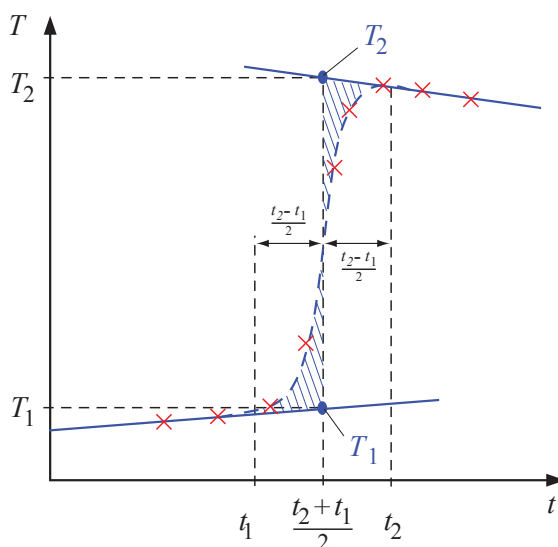

Fig. 5.3.4 Extrapolation of the temperature.
- Determine the initial and final temperature  $T_1$  and  $T_2$  as shown in Fig. 5.3.4 by extrapolation of the curves before and after heating to  $t_1$  and  $t_2$ , when the heating was switched on and off, respectively.